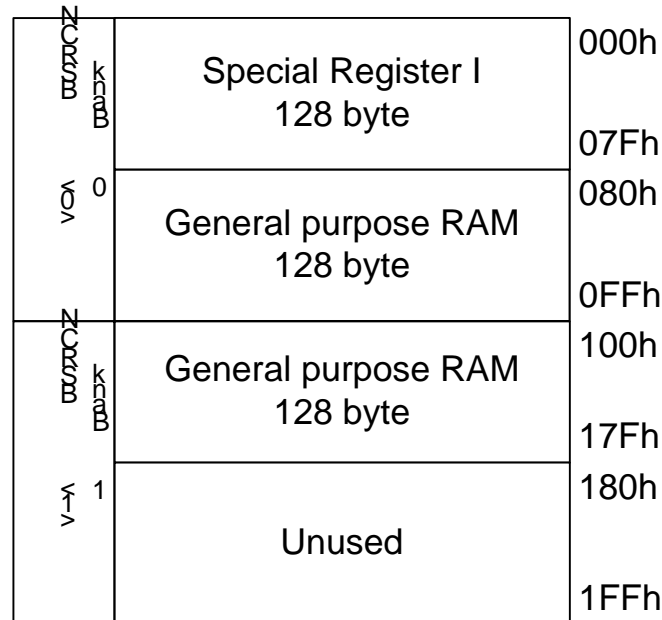

Figure 2-4 Data Memory architecture diagram
Data Memory comprises Special Register (SR) and General Purpose Register (GPR), every 256byte is a segment. Segment 0 is particular; include 128byte SR and 128byte GPR respectively. Other segments only contain GPR, as illustrated in Figure 2-4.